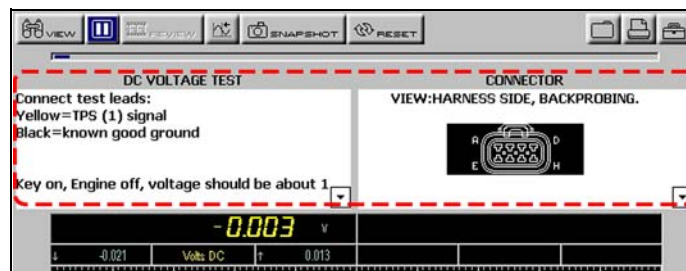

Figure 4-12 Sample connection instructions
- Follow the on-screen connection instructions located in the Test Procedure and Support windows (Figure 4-12).